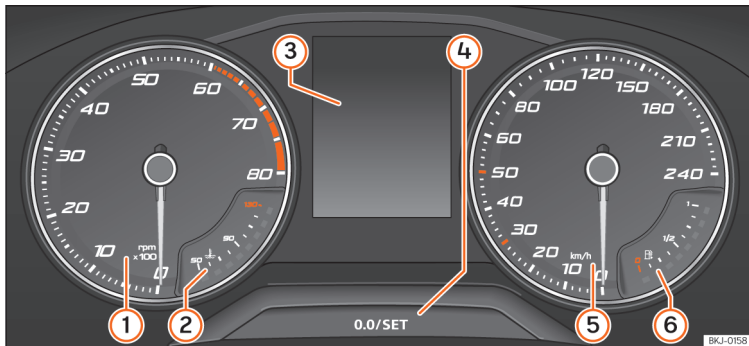

Fig. 61 Monochrome instrument cluster on the dash panel.
Details of the instruments » **Fig. 61:**
- Briefly press the button  »» Fig. 61